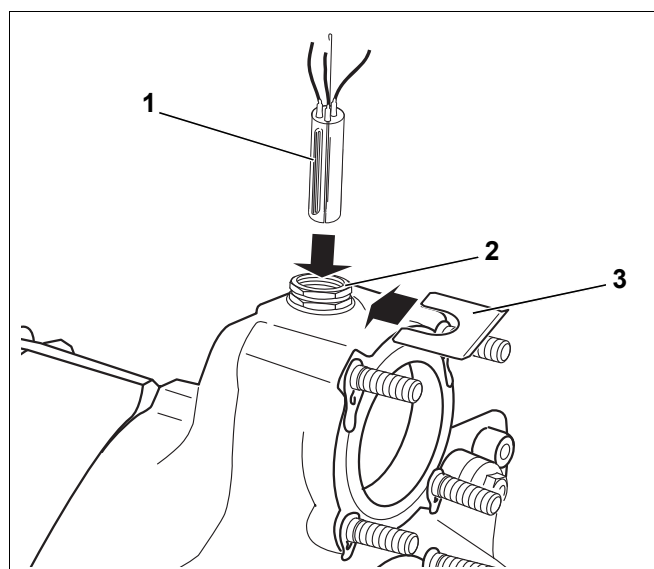

Fig. 45 Sensor bundle installation
The sensor bundle (three sensors, one sensor blank Fig. 45, [1]) connected to the control unit is fitted into the $\frac{3}{4}$ " sensor well.
- Lead the capillary sensor to the measuring point on the boiler and insert it into the sensor well (Fig. 45, [2]); then secure the assembly with a sensor securing device (Fig. 45, [3]).